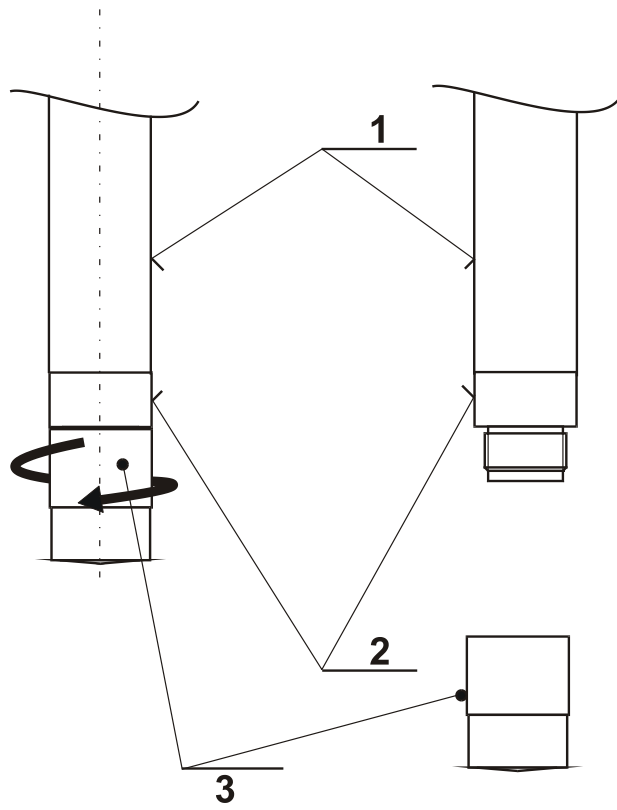

Fig. 4 Sensor CSOT 53LZ-S – membrane head exchange
and the one of the thermometer block of the sensor - Fig.4, pos.2 – should be the same during calibration. Protective sensor case serves as a calibration block.
During the measuring, the sensor must be immersed in the measured water 10 mm above the metallic block (Fig. 4, pos. 2), at least, in which the temperature sensors are placed. The sensor may be immersed in the measured water completely; **nevertheless sensor is not designed for continuous immersing in water.**